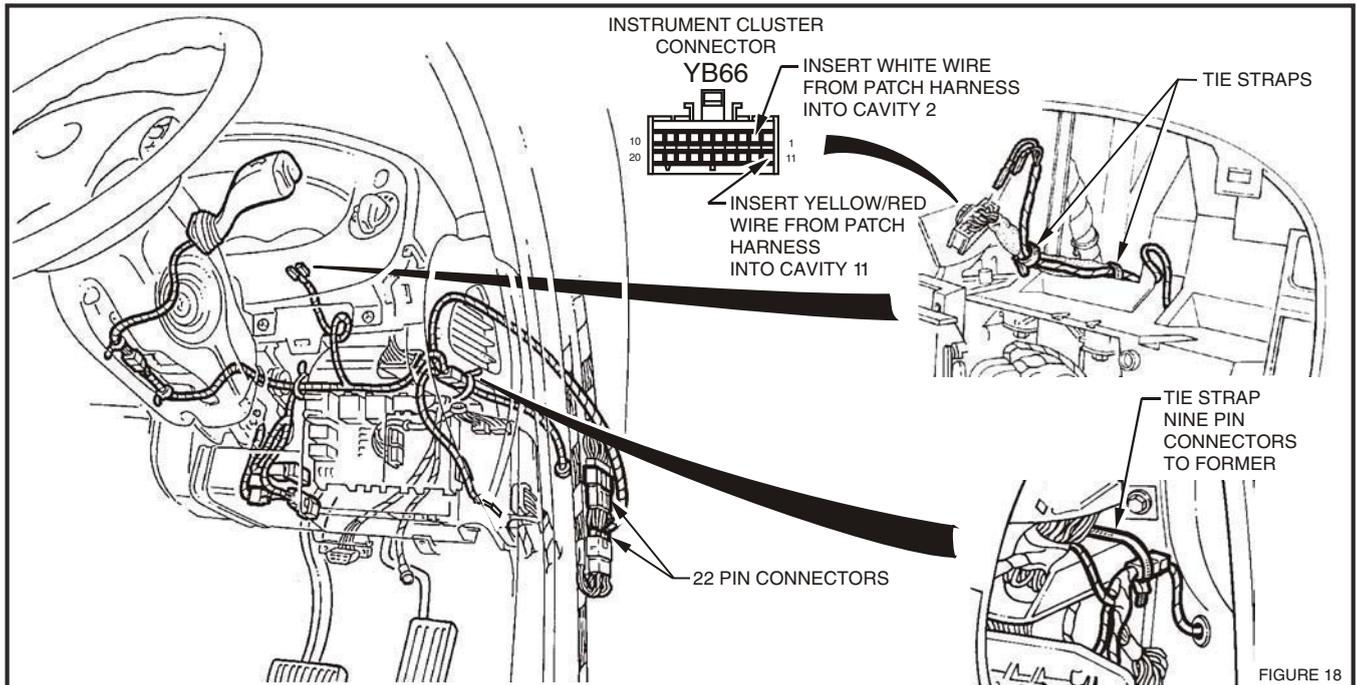

FIGURE 18
28. Connect instrument patch harness (Part No. 92057294) to engine compartment patch harness (Part No. 92057293) with nine pin connectors, refer fig. 18.
29. Tie strap harness to wiring former at 9 pin connectors, refer fig. 18.
30. Route harness up through dash frame work above fuse panel, refer fig. 18.
32. Disconnect existing 22 pin connectors and bridge patch harness 22 pin connectors between, refer fig. 18.
35. Insert white wire into connector YB66 terminal cavity 2, refer fig. 18.
36. Insert yellow/red wire into connector YB66 terminal cavity 11, refer fig. 18.
39. Route remaining harness branch between fuse panel frame and fuse panel wiring, refer fig. 18.